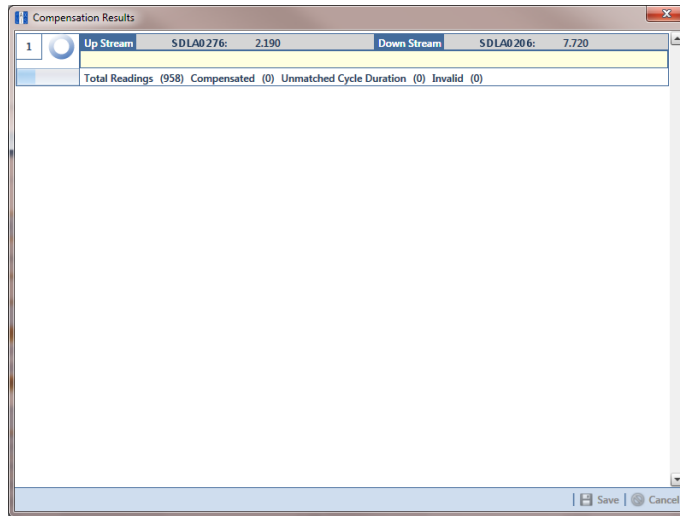

Figure 14-34. Compensation Results
- b Click  **Run** to begin the compensation process and open the *Compensation Results* window (Figure 14-34).